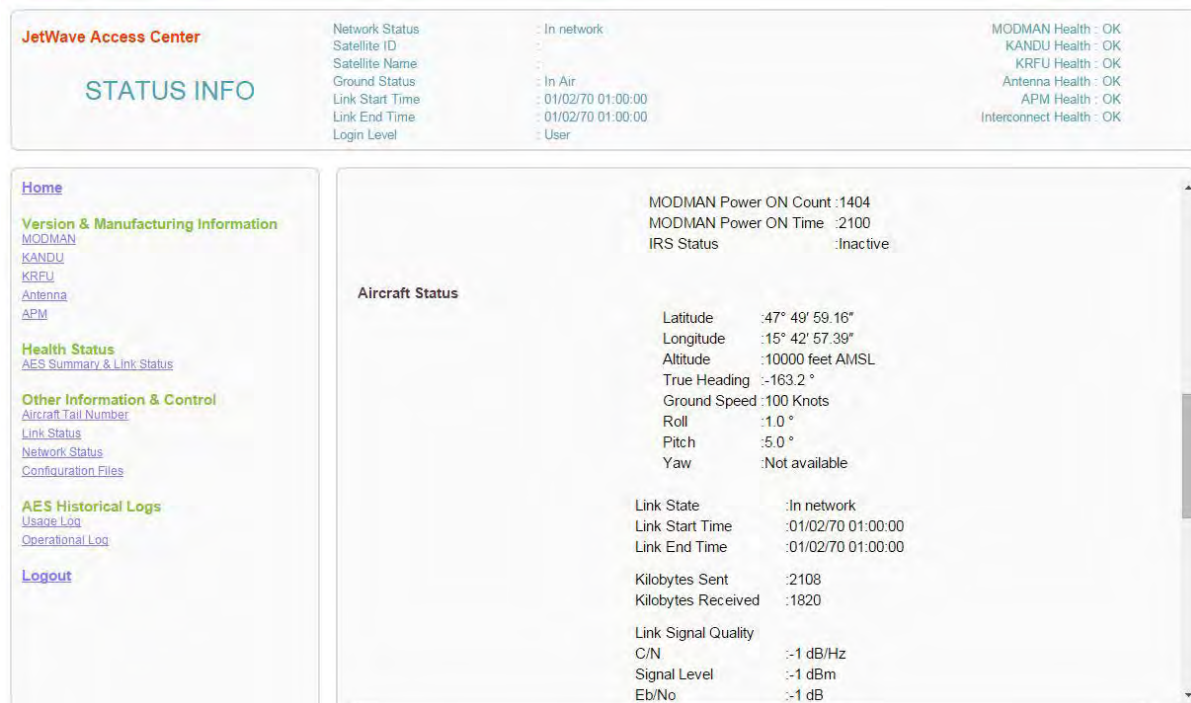

Figure 3-13. Aircraft Statuses
Navigate to the AES Summary and Link Status page and scroll down to see the aircraft status. Refer to Figure 3-13.
- (1) Power up the system and let it acquire to the network.
- (2) Begin a two way (Rx and Tx) video conference call with a tool such as Microsoft Lync or Skype.
- (3) Test the functioning of other communication systems with antennas installed adjacent to the FMA or TMA and observe for any mutual interference.
- (4) Monitor the link signal quality C/N and  $E_b/N_o$  parameters. These parameters are found under Aircraft Statuses as part of the AES Summary and Link Status page. Refer to Figure 3-13.